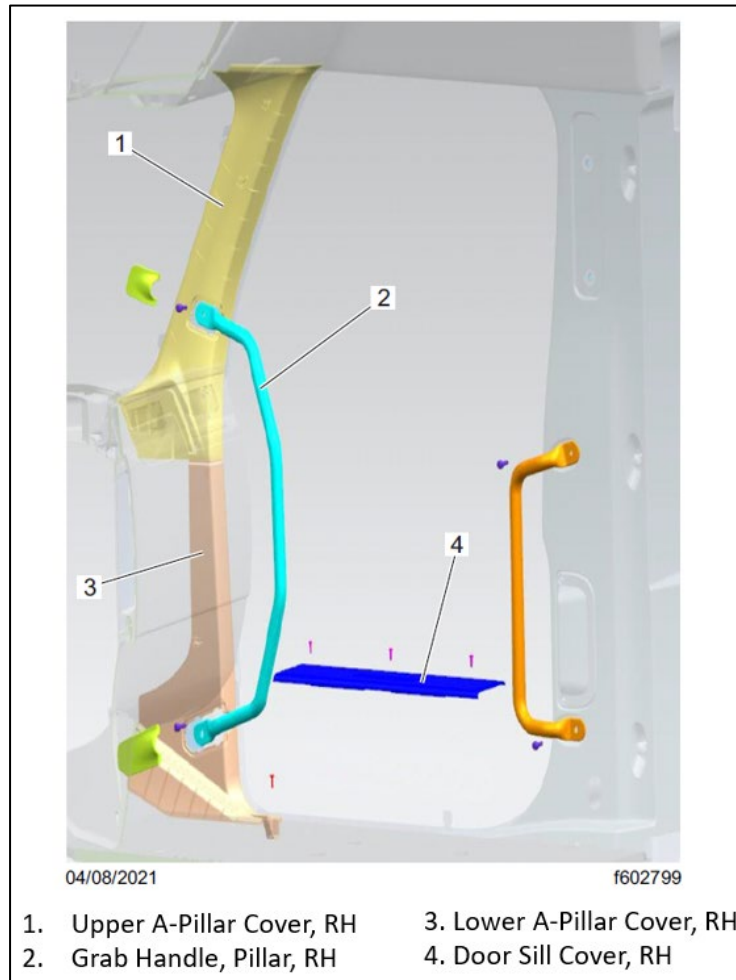

Fig. 13, A-Pillar Door Sill, Grab Handle, and Upper and Lower Cover Locations
1. At the RH side A-pillar, remove the door sill cover, grab handle, and upper and lower covers. See Fig. 13.